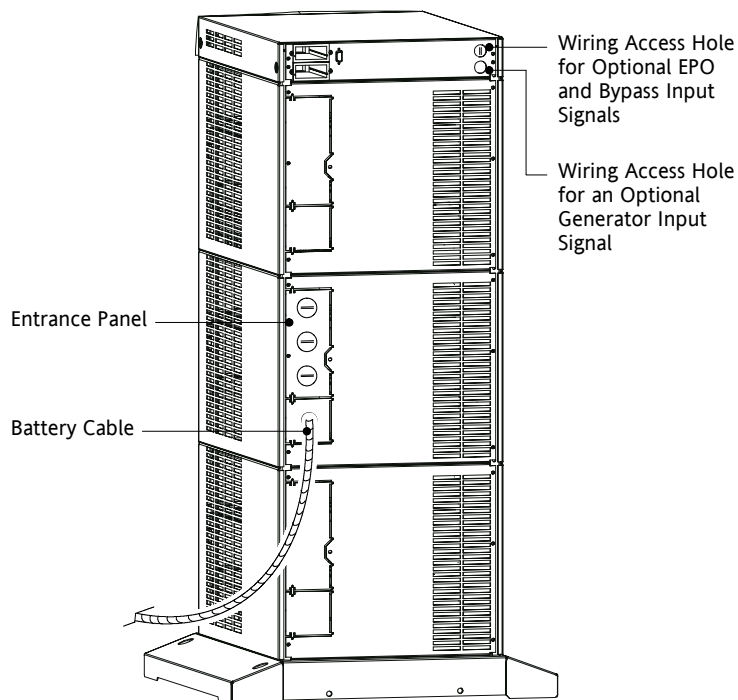

Figure 15. UPS Power Entrance Panel (Nine-Slot Cabinet Shown)
3. Unscrew and remove the rear panel(s) of the UPS (top panel on 3- or 6-slot; top 2 panels on 9- and 12-slot). See Figure 15.
The entrance panel contains knockout openings for entrance and exit conduits and for conduit to an optional external battery cabinet. The entrance panel is located on the top 3-slot section for 3- and 6-slot cabinets; on the second section for 9- and 12-slot cabinets as shown in Figure 15.